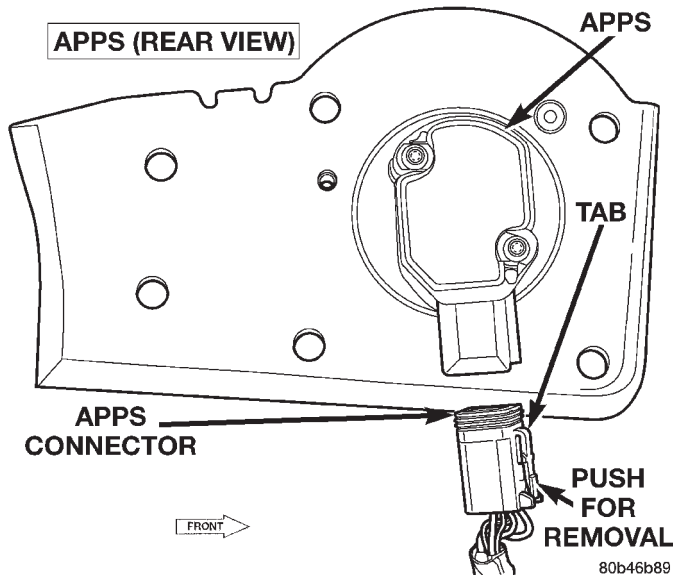

Fig. 57 Rear View of APPS
(6) Remove electrical connector from APPS by pushing connector tab rearward while pulling down on connector (Fig. 57).